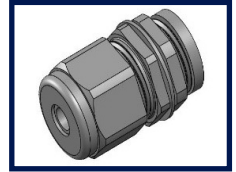

Figure 5A
5. Install cord grips for the motor cables to enter the chassis. The cord grip has a nut that turns off the back end of the grip housing (**Figure 5A**). Remove the cord grip nut and insert cord grip into the chassis holes located near the motor (**Figure 5B**). Screw on the nut from the inside of the chassis to lock cord grip in place (**Figure 5C**). Feed motor cable through cord grip and tighten down the cord grip cap until snug.